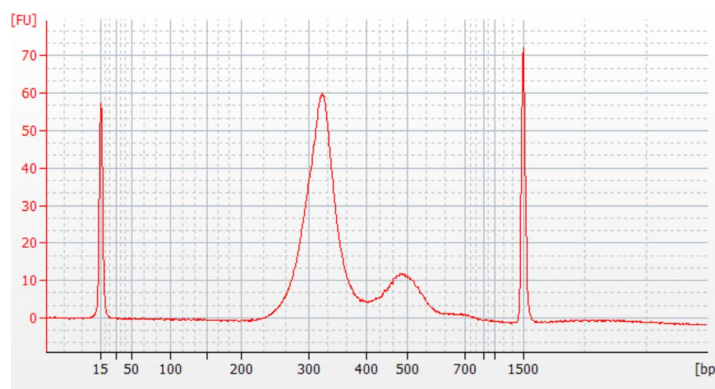

Figure 1. Example of cfDNA pre-hyb library size distribution on Agilent 2100 Bioanalyzer
1.8.2 Pre-hyb library fragment size QC (Optional): Assess the quality of the pre-hyb library with a recommended capillary electrophoresis analyzer and associated kit. The peak size of the library fragment should fall within the range of 300 to 400 bp, as illustrated in Figure 1.